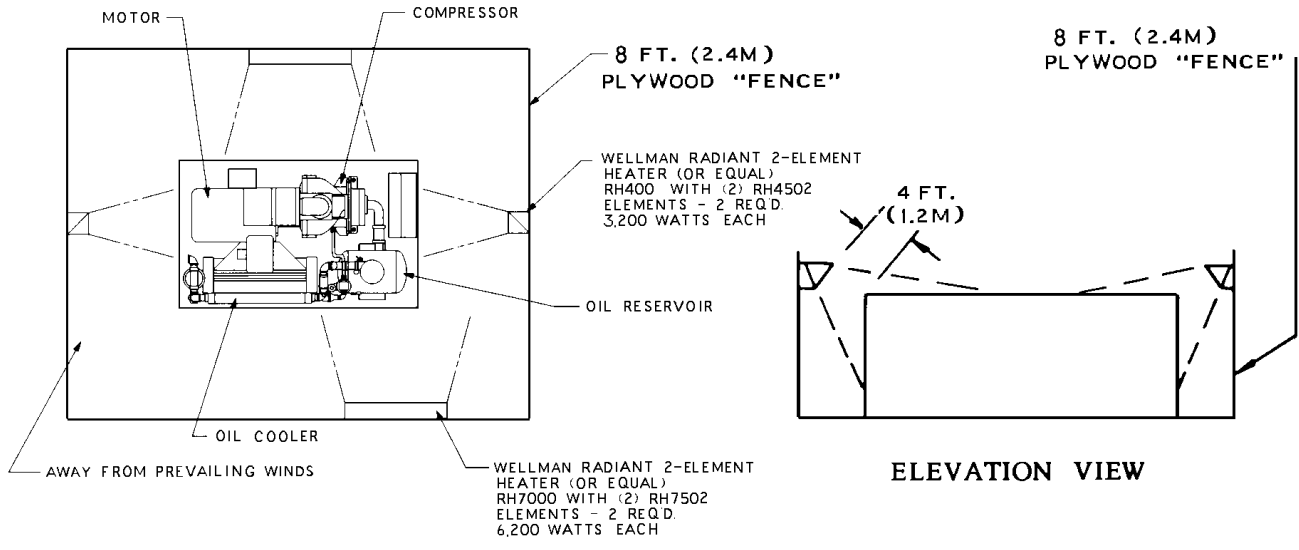

FIGURE 2-3 – COLD WEATHER INSTALLATION
INSTALLATION FOR COLD WEATHER OPERATION (FIGURE 2-3) – It is recommended that the unit be installed inside a shelter that will be heated to temperatures above freezing (32°F, 0°C). This will eliminate many of the problems associated with operating units in cold climates, such as freezing in control lines and downstream of the cooler.
3. Some means of providing heat during shutdown should be provided. There are various methods to accomplish this, but since openings are not provided for sump heaters, the use of radiant heaters is recommended. The heaters should be sized to provide at least a $+10^{\circ}\text{F}$ (-12°C) environment for coolers, motor and sump. Figure 2-3, page 11, shows how these might be located in a typical installation and sizes required.